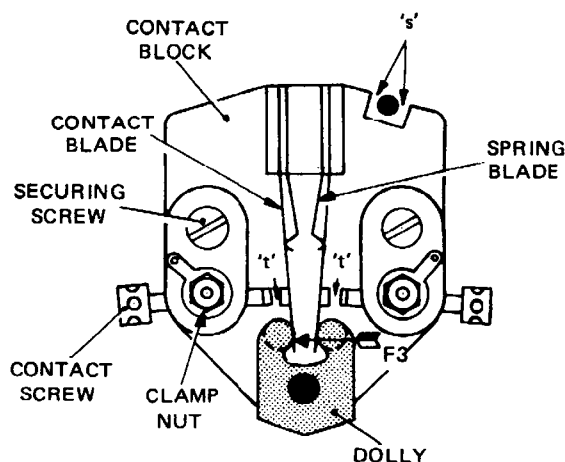
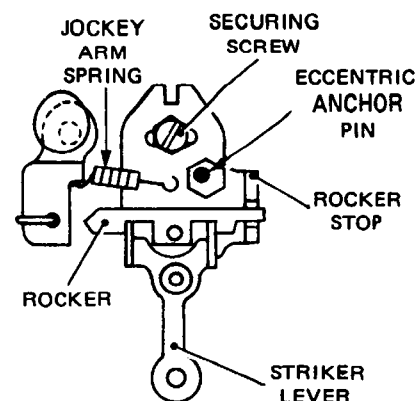
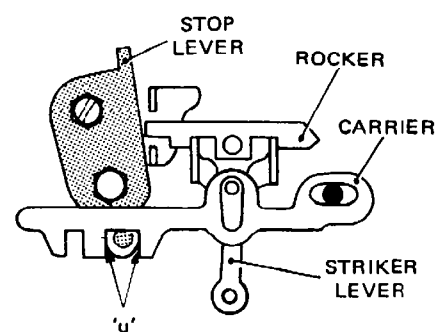

Fig. 4.20 MARK/SPACE CONTACT BLOCK
Fig. 4.21 ROCKER STOP PLATE (REAR VIEW)
Fig. 4.22 CARRIER STOP
- 22.1 Check that the two gaps between the stop pin and the contact block (dimensions 's' of Fig. 4.20) do not differ by more than 0.004 inch.
- 23.1 Unhook the jockey arm spring from the anchor pin, raise the striker lever so that both arms are fully engaged with the rocker, as shown in Fig. 4.21, and check that the two gaps between the rocker and rocker stop do not differ by more than 0.004 inch.
- 23.3 With the jockey arm spring unhooked and the striker lever fully engaged with the rocker, as shown in Fig. 4.21, check that the gaps between the contact screws and the blade contacts, Fig. 4.20, are 0.003–0.004 inch (dimensions 't').
- 23.5 With the jockey arm spring unhooked and the striker lever fully engaged with the rocker, as shown in Fig. 4.22, check that the two gaps between the carrier and the stop lever pin (dimensions 'u') do not differ by more than 0.004 inch. Hook the jockey arm spring, Fig. 4.21, onto the anchor pin.
- 24.1 Set the dolly, Fig. 4.20, to one side to close the right-hand contacts and, observing the contacts under good lighting, check that the force required to just separate the contacts is 100–120 grams.
- 25.1 Apply a gram gauge to the inside of one contact blade adjacent to the dolly fork, as at F3 of Fig. 4.20, and check that the force required to set the dolly in the opposite position is 150–200 grams.